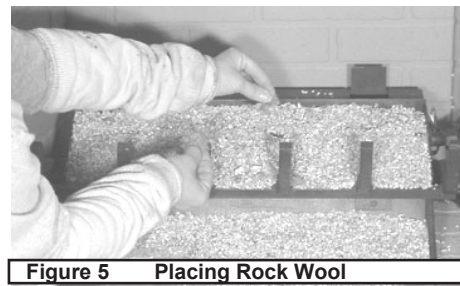

Figure 5 Placing Rock Wool
- Lightly place dime-size pieces of rock wool evenly on top of the sand and vermiculite to achieve a glowing ember effect. See Figure 5.